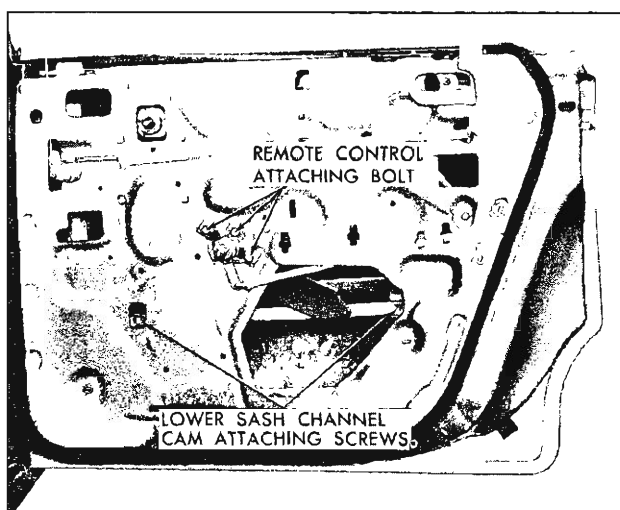

Fig. 49—Rear Door Hardware
2. Lower door window sufficiently to gain access to sash channel cam two attaching screws (through access holes in door inner panel) and remove screws (fig. 49).
3. Lower door window and remove lower sash channel cam attaching screws (fig. 49).